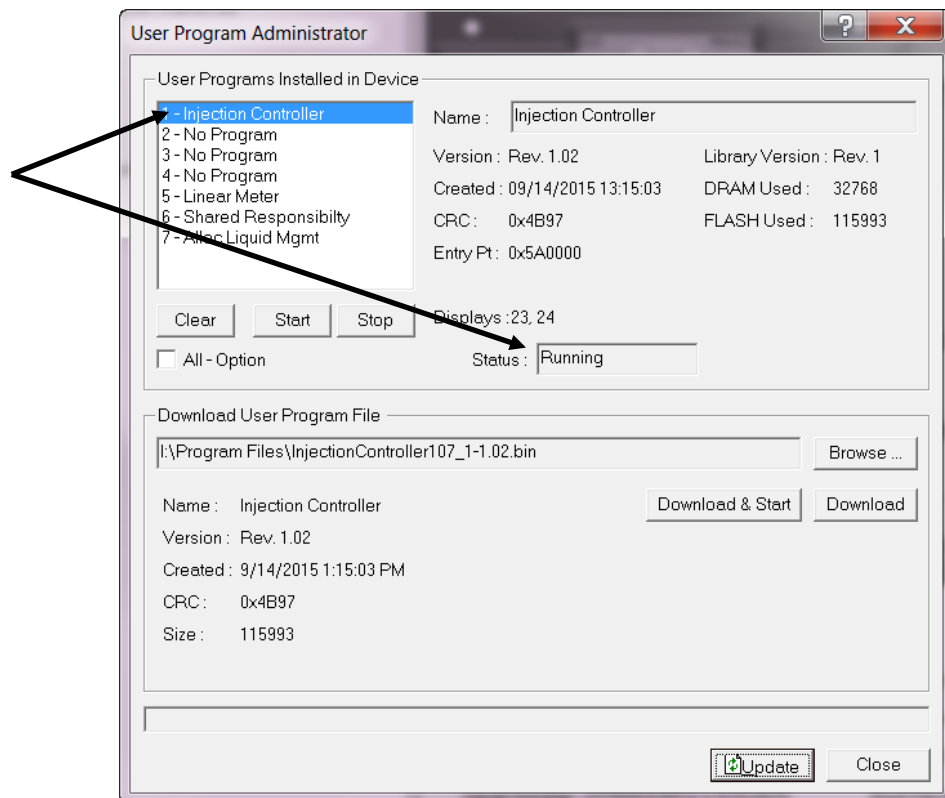

Figure 12. User Program Administrator
10. Click **OK**. The User Program Administrator screen displays (see Figure 12). Note that: